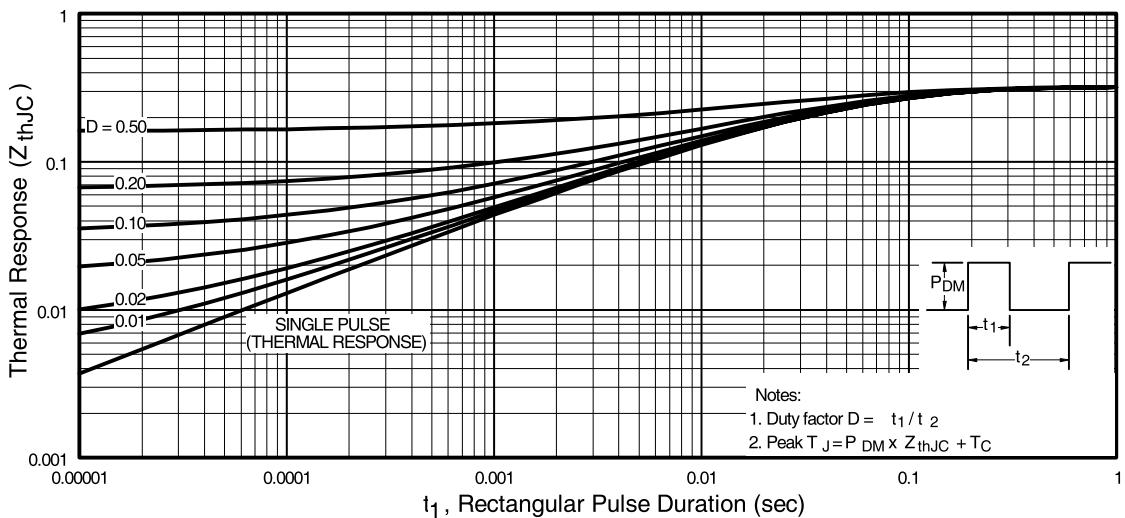

Fig 11. Maximum Effective Transient Thermal Impedance, Junction-to-Case
- ① Repetitive rating; pulse width limited by max. junction temperature. (See fig. 11).
- ② Starting $T_J = 25^\circ\text{C}$, $L = 0.25\text{mH}$
- $Z_{thJC}(D, t_{av})$ = Transient thermal resistance, see figure 11)